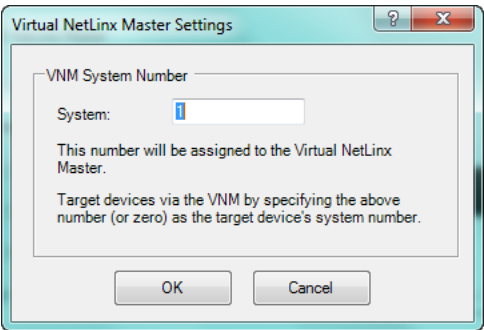

FIG. 49 Virtual NetLinx Master Settings dialog
With **Virtual NetLinx Master** selected as the *Transport Connection Option*, click **Settings** in the *Communications Settings* dialog to open the *Virtual NetLinx Master Settings* dialog (FIG. 49):
3. Click the **Settings** button to access the *Virtual NetLinx Master Settings* dialog (see FIG. 49 on page 34).